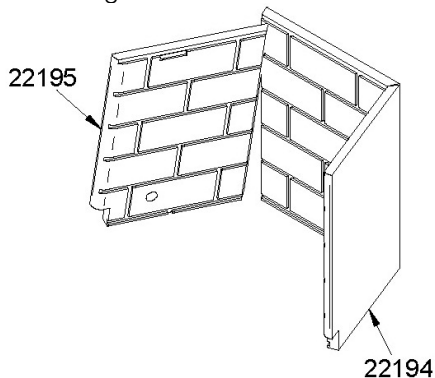

Figure 42.4
4. Remove the left and right side refractory panels (22195 and 22194) or (22332 and 22331) Figure 42.4